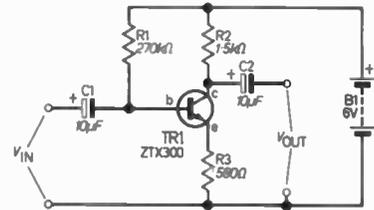

Fig. 5.13
6. Fig. 5.13 shows a single stage amplifier. If the base potential is increased by 0.1V , what is the change in emitter potential?
- 5.10. What is the circuit in Fig. 5.13 called? (Hint: see Part 4.)